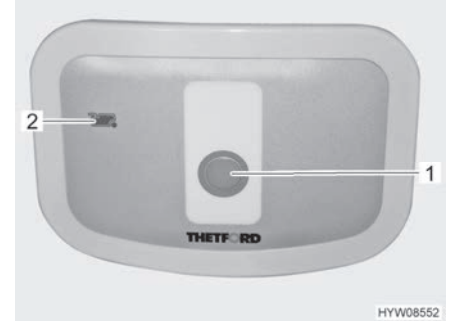

Fig. 82 Flush button/indicator lamp (Thetford toilet)
- For flushing, press the blue flush button (Fig. 82,1).
The indicator lamp (Fig. 82,2) lights up whenever the sewage tank has to be emptied.